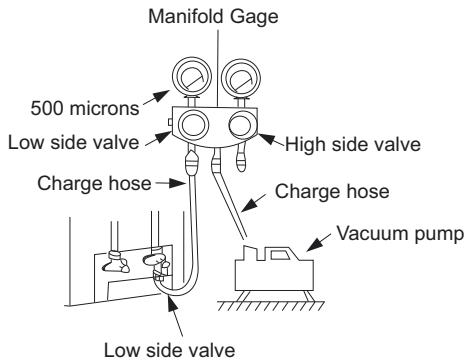

Fig. 16 – Manifold
- 3 Fully open the low side of manifold gage (see Fig. 16).